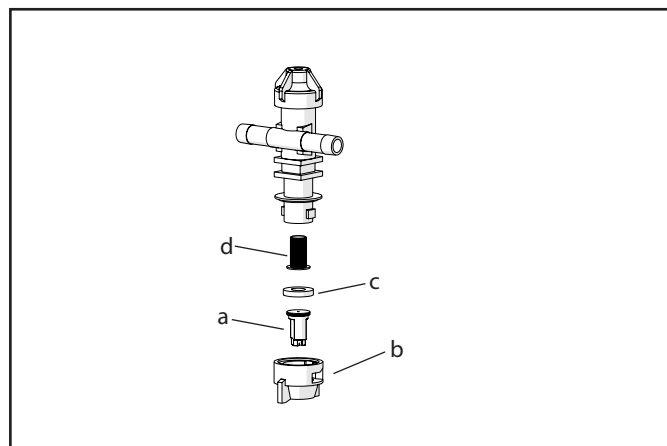

Figure 6: Nozzle assembly
6. Insert the spray tip (a) into nozzle cap (b), then push the rubber washer into the nozzle cap. Insert the tip strainer into the nozzle body with the mesh facing upward as shown and turn the spray cap onto the nozzle body (Figure 6).
3. Tip strainers should be taken out and rinsed on a regular basis. Tip strainers are the small screens located behind each spray nozzle on the boom (Figure 6, page 6).